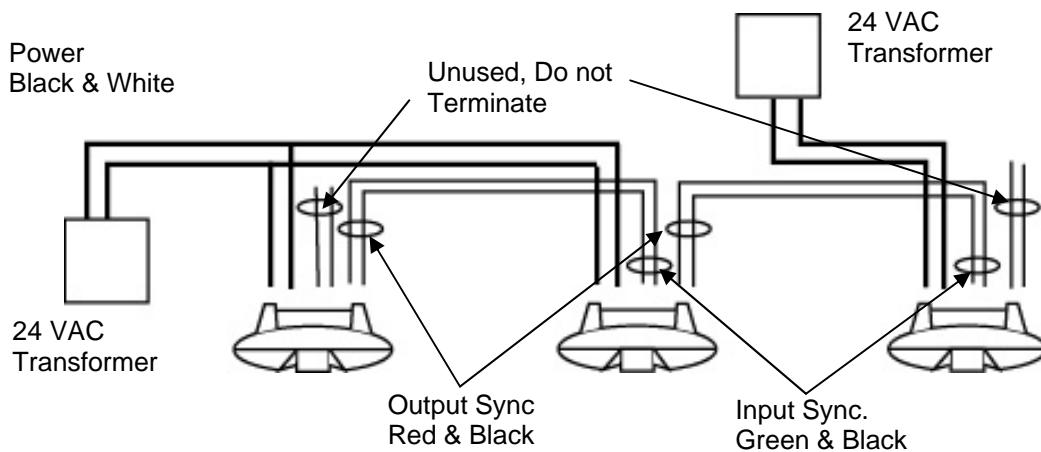

Figure 43 Wiring Schematic for Synchronized WherePorts
Step 4 Connect wiring: white & black pair to power; red & blue pair to following WherePort; green & orange pair to previous WherePort (Figure 43).